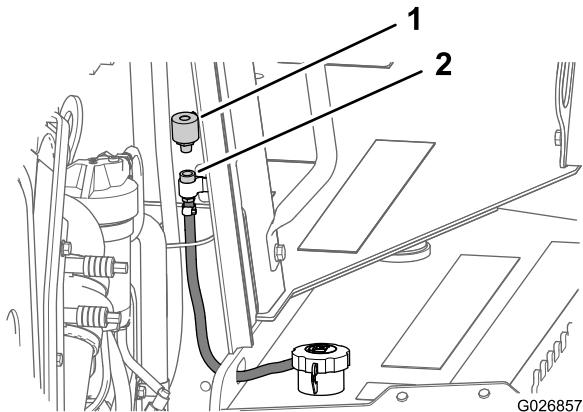

Figure 78
- 2. At the forward side of the engine compartment panel, remove the breather from the pipe coupling by rotating the breather counterclockwise (Figure 78).
- 3. Install a new breather into the pipe coupling hand tight (Figure 78).